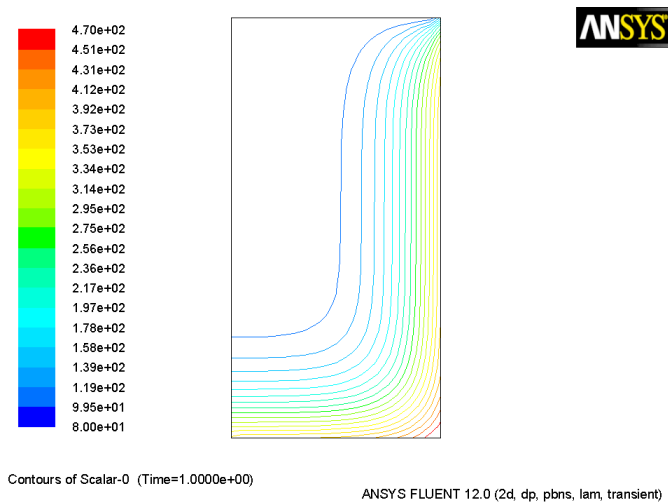

Figure 5: Contours of ϕ at $t = 1$ s
- (b) Click Display (see Figure 5).